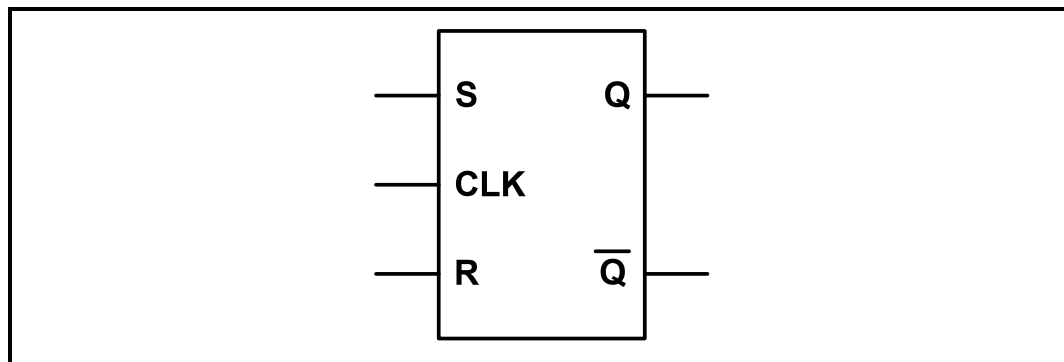

FIGURE 5.5: RS-TYPE FLIP-FLOP
- 5.5 Refer to FIGURE 5.5 of the clocked RS-type flip-flop below and answer the questions that follow.